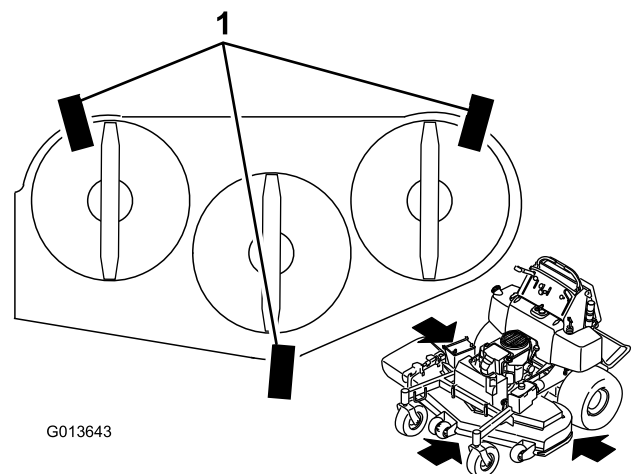

Figure 84
1. Place 3 pieces of 2x4 wood under the mower deck as shown in Figure 84. Stand the 2x4's on the 4 inch part.